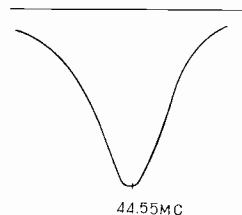

Figure 9
- ii) Disconnect the output of the sweep generator from TP-3 and connect to TP-2 through DC stopper condenser. Adjust the dust core of 2TIF-468 to obtain the wave form shown in Fig. 9.